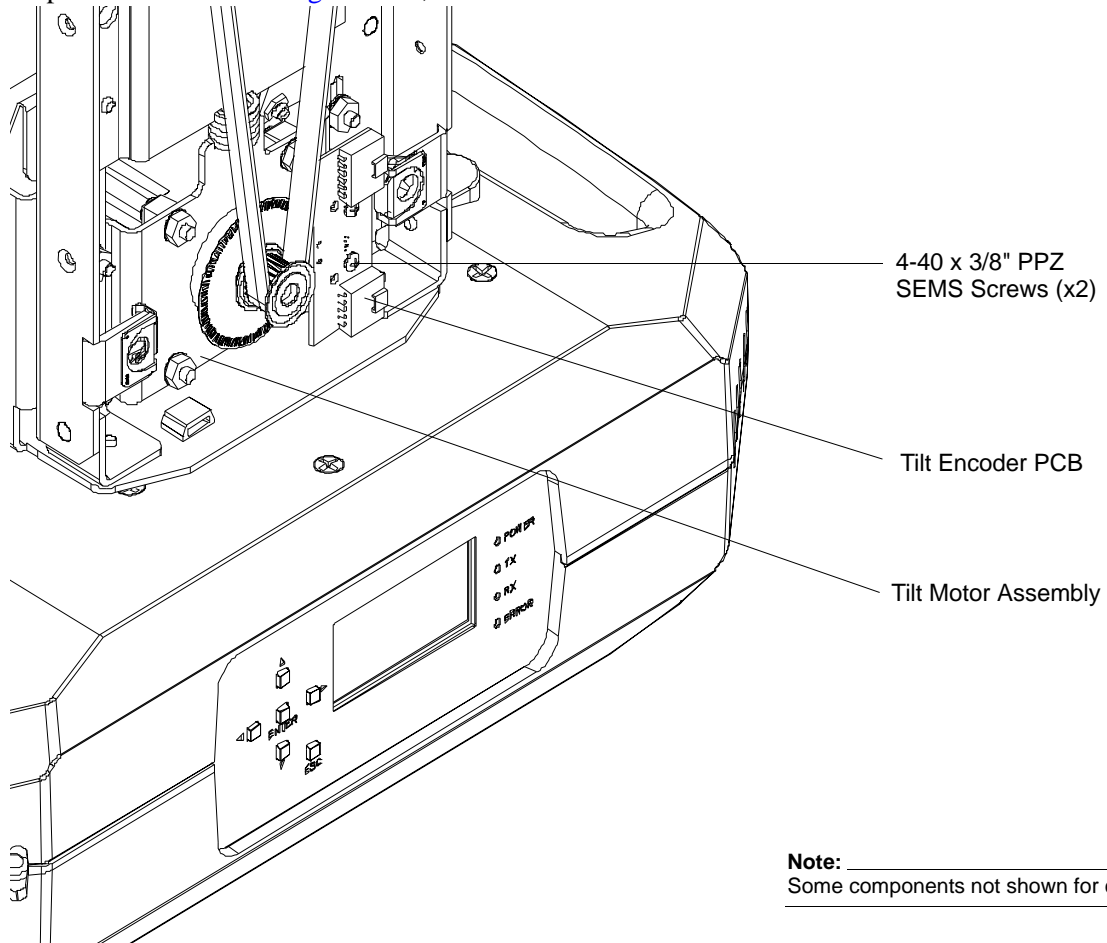

Figure 2-19: VLX Wash Tilt Encoder PCB
Step 4. As shown in Figure 2-19, remove two 4-40 x 3/8" PPZ SEMS screws.